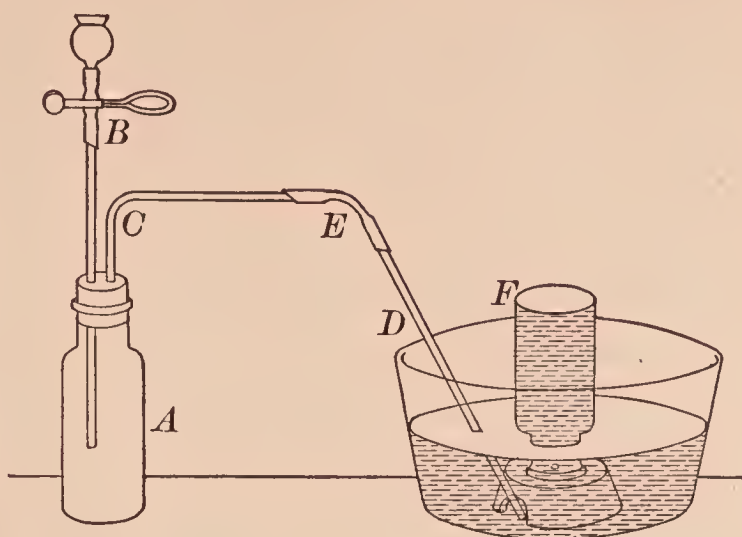

FIG. 33. — Apparatus for finding the equivalent weight of zinc
**APPARATUS.** — As in Fig. 33, pneumatic trough (not zinc), thermometer, barometer.
Construct and arrange the apparatus (Fig. 33) to collect a gas over water, and have it inspected by the Teacher.